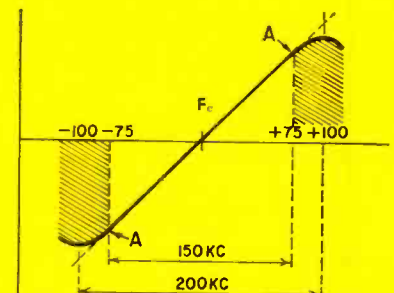

Fig. 1—S-curve of a typical FM detector. Distortion occurs if the FM signal swings past the linear portion into the shaded areas.
Basically, the trouble stems from a discriminator or ratio-detector transformer that does not have enough bandwidth to handle the i.f. signal. Fig. 1 shows the response characteristic of a typical discriminator or ratio detector, commonly called the S-curve. Note that the curve is linear up to a certain point (A) on either side of the center frequency,  $f_c$ . Beyond this point, the curve is no longer linear and the detector output is not proportional to the frequency deviation. When the i.f. signal swings into this non-linear area, distortion appears in the output.